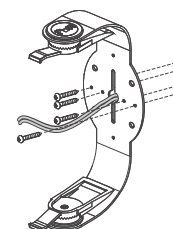

FIGURE 4:
2. Attach the FastMount brackets to the mounting surface using hardware (not included) that is appropriate for the type of surface (see figure 4).